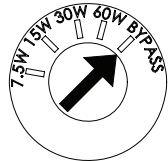

Figure 30
4. Use a flathead screwdriver to change the transformer tap to the desired power level as shown in Figure 30.